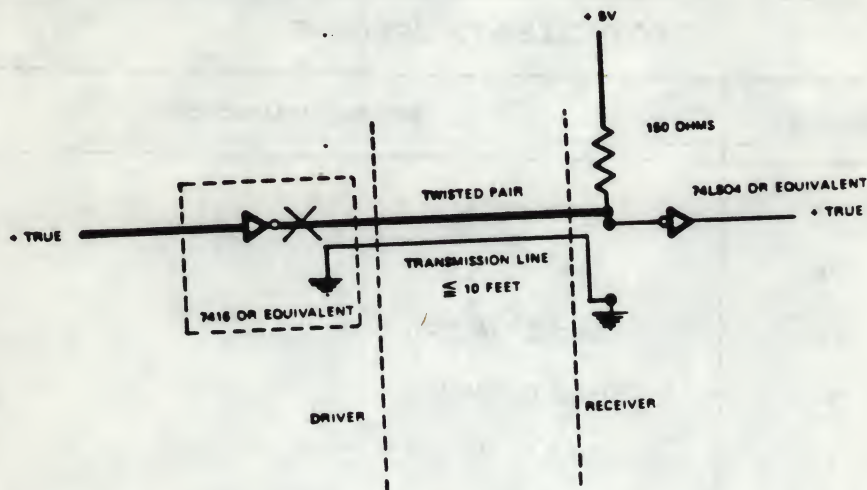

Figure 3-2
All interface signals are TTL compatible. Logic true (low) is +0.4 V (minimum). Figure 3-2 illustrates the interface configuration. The maximum interface cable length is ten (10) feet.